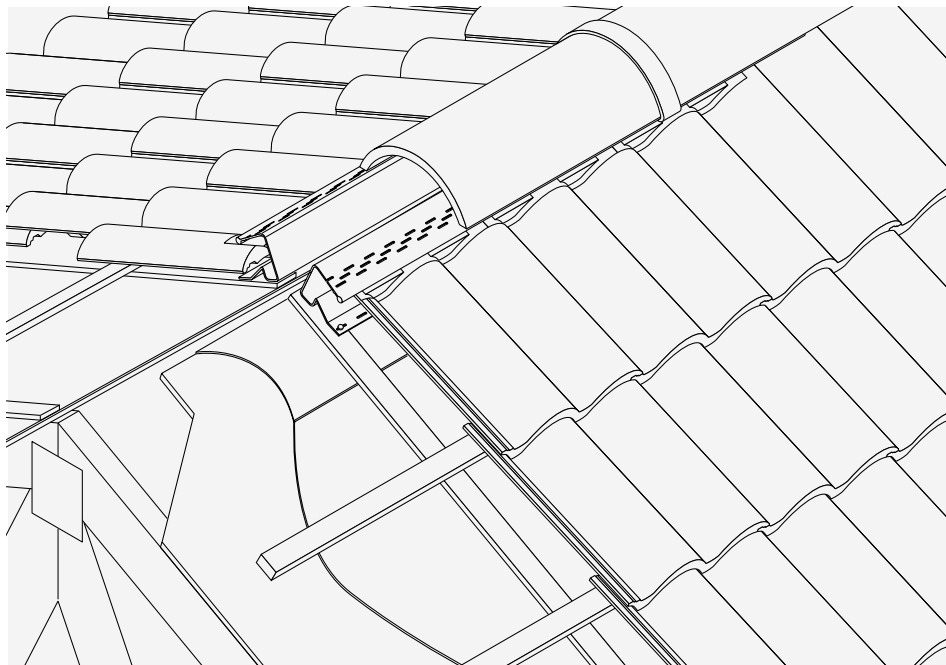

Fig. 40 – Battens and counter battens at ridge above rigid boarding and underlay (cut back at apex), with Marley ventilated dry ridge system
- 3 Before felting and battening, ensure quilt (A) is laid on top of wall with edges tucked between wall faces and adjoining rafters.
- 4 After felting and battening, ensure lengths of quilt (B) are laid between battens as tiling proceeds or fixed by spot sticking in place before tiling.
- 5 Check eaves void is filled with fire stopping material (C) to achieve a tight fit.
- 6 Fire resistant material must be securely fixed without support from the soffit board (Fig. 40). The following materials can be useful for this purpose: